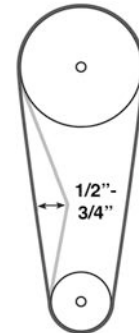

FIGURE 12
1. Press on the centre of the longest span on the belt with moderate finger pressure. Then measure the deflection distance, the distance that the belt moved. The belt should deflect anywhere from 1/2" to 3/4". See Fig.12.
3. Check and adjust V-belt tension. Press on the center of the longest span on the belt with moderate finger pressure. Then measure the deflection distance, the distance that the V-belt moved. The belt should deflect anywhere from 1/2" to 3/4". See Fig.12.